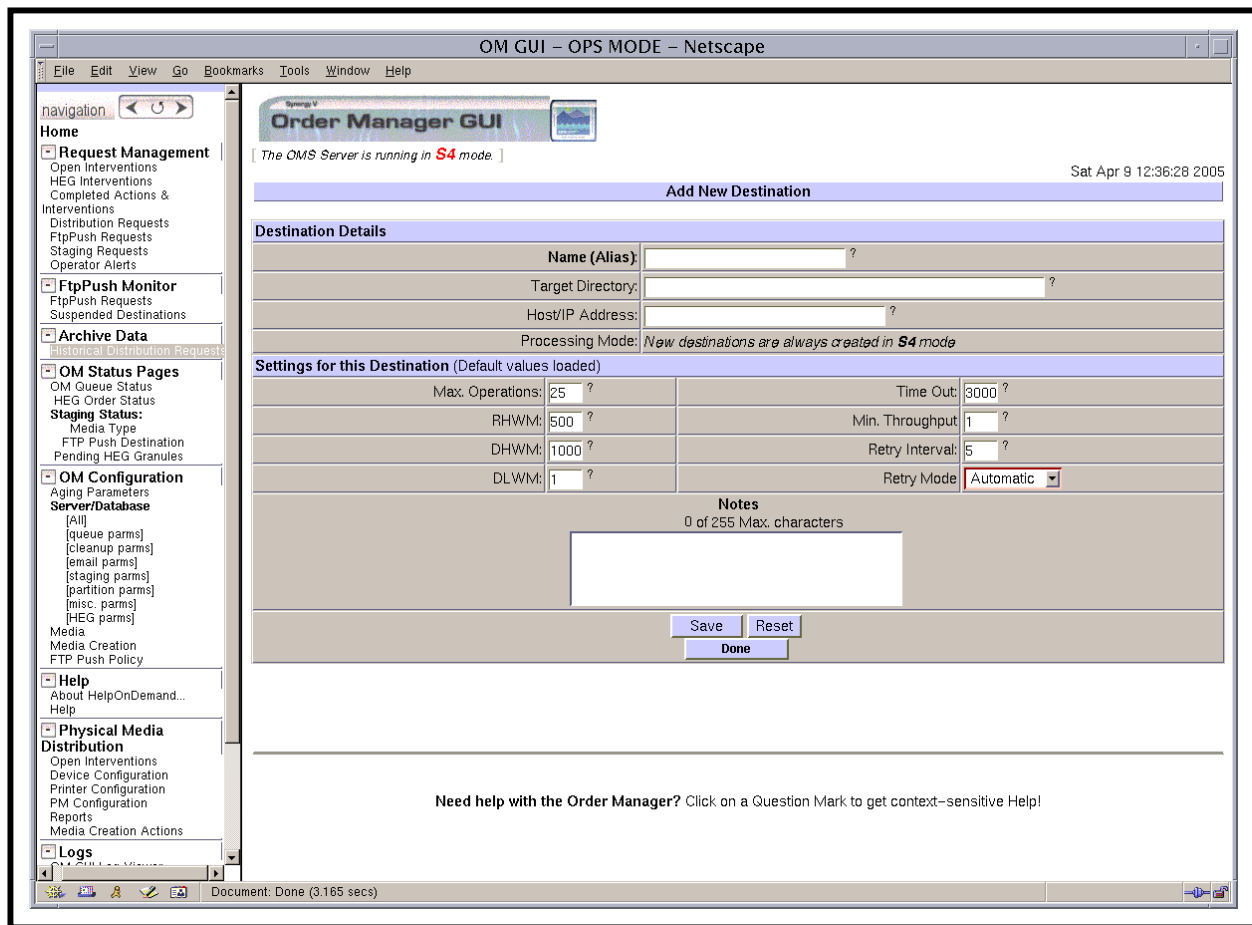
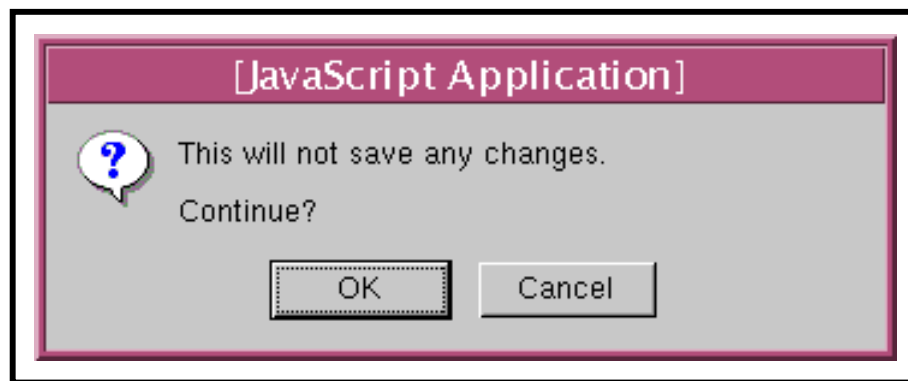

Figure 67. Add New Destination Page
Figure 68. “Done” Confirmation Dialogue Box
The **Add New Destination** page (Figure 67) provides the full-capability operator with a means of adding destinations to the **Frequently Used Destinations** list on the **FTP Push Policy Configuration** page (Figure 65).
- The **Add New Destination** page (Figure 67) is displayed.
- In the **Destination Details** area of the **Add New Destination** page (Figure 67) text boxes for entering the following types of destination attributes are displayed:
- In the **Settings for this Destination** area of the **Add New Destination** page (Figure 67) current values for the following types of parameters are displayed:
- The attributes are entered in the **Destination Details** area of the **Add New Destination** page (Figure 67).
- The parameter values are displayed in the **Settings for this Destination** area of the **Add New Destination** page (Figure 67).
- **Done** - to dismiss the **Add New Destination** page (Figure 67) and display the **FTP Push Policy Configuration** page (Figure 65).
- A **“Done” Confirmation** dialogue box (Figure 68) is displayed.
- 18 If a **“Done” Confirmation** dialogue box (Figure 68) is displayed, click on the appropriate button from the following selections:
- **OK** - to dismiss the **“Done” Confirmation** dialogue box (Figure 68) and the **Add New Destination** page (Figure 67) and display the **FTP Push Policy Configuration** page (Figure 65).
- The **“Done” Confirmation** dialogue box (Figure 68) is dismissed.
- The **Add New Destination** page (Figure 67) is dismissed.
- **Cancel** - to dismiss the **“Done” Confirmation** dialogue box and return to the **Add New Destination** page (Figure 67).
- 19 If the **Add New Destination** page (Figure 67) is still being displayed and no changes to the new destination are needed, click on the **Done** button.
- 20 If a **“Done” Confirmation** dialogue box (Figure 68) is displayed, click on the appropriate button from the following selections: